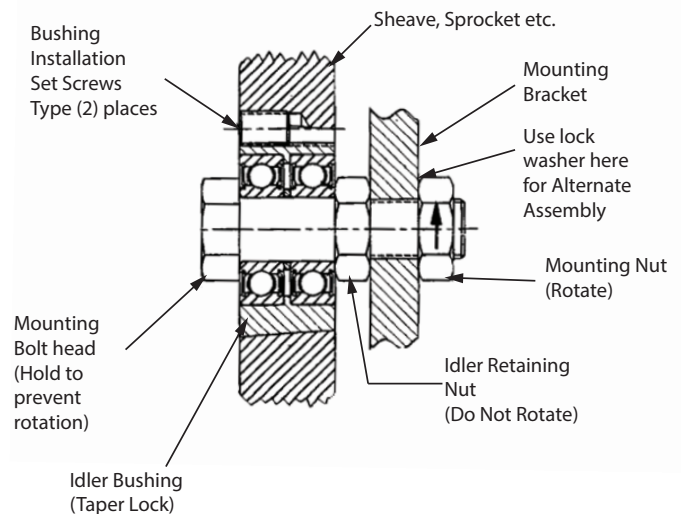

Figure 1 -- Preferred Assembly
3. Hold the mounting bolt head stationary to prevent rotation, and tighten mounting nut to 40 lb-ft, as shown in Figure 1. DO NOT over-tighten the mounting nut.
1. Slip the sheave onto the idler bushing and hand tighten the three (3) bushing retaining bolts. **DO NOT** fully tighten the bushing retaining bolts at this time.
3. Hold the mounting bolt head stationary to prevent rotation, and tighten mounting nut to 40 lb-ft, as shown in Figure 1. **DO NOT** over-tighten the mounting nut.